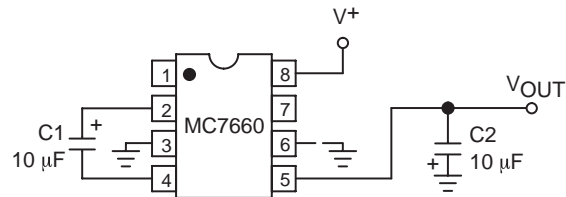
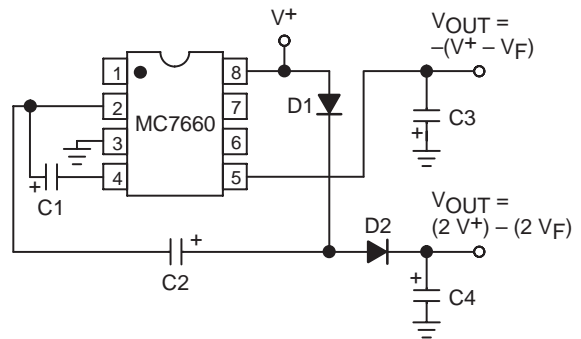
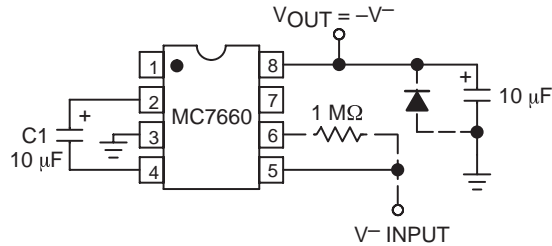
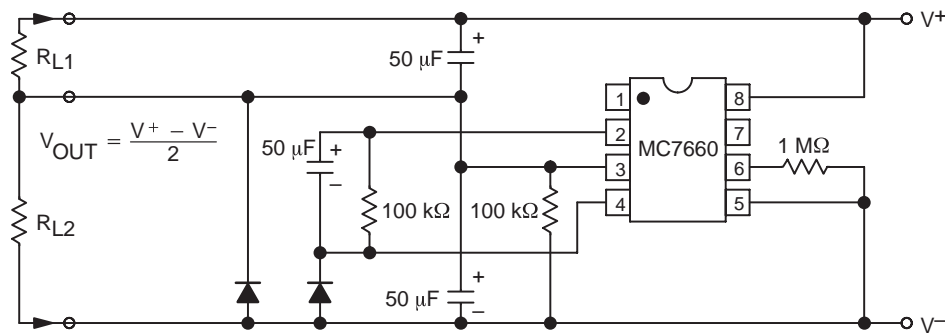

Figure 3. Simple Negative Converter
Figure 9. Combined Negative Converter and Positive Multiplier
Figure 10. Positive Voltage Conversion
Figure 11. Splitting a Supply in Half
Figure 3 shows typical connections to provide a negative supply where a positive supply is available. A similar scheme may be employed for supply voltages anywhere in the operating range of +1.5V to +10V, keeping in mind that pin 6 (LV) is tied to the supply negative (GND) only for supply voltages below 3.5V.
The output characteristics of the circuit in Figure 3 are those of a nearly ideal voltage source in series with 70Ω. Thus, for a load current of -10mA and a supply voltage of +5V, the output voltage would be -4.3V.
Figure 9 combines the functions shown in Figures 3 and 8 to provide negative voltage conversion and positive voltage multiplication simultaneously. This approach would be, for example, suitable for generating +9V and -5V from an existing +5V supply. In this instance, capacitors  $C_1$  and  $C_3$  perform the pump and reservoir functions, respectively, for the generation of the negative voltage, while capacitors  $C_2$  and  $C_4$  are pump and reservoir, respectively, for the multiplied positive voltage. There is a penalty in this configuration which combines both functions, however, in that the source impedances of the generated supplies will be somewhat higher due to the finite impedance of the common charge pump driver at pin 2 of the device.
Since the switches that allow the charge pumping operation are bidirectional, the charge transfer can be performed backwards as easily as forwards. Figure 10 shows a MC7660 transforming  $-5V$  to  $+5V$  (or  $+5V$  to  $+10V$ , etc.). The only problem here is that the internal clock and
switch-drive section will not operate until some positive voltage has been generated. An initial inefficient pump, as shown in Figure 9, could be used to start this circuit up, after which it will bypass the other ( $D_1$  and  $D_2$  in Figure 9 would never turn on), or else the diode and resistor shown dotted in Figure 10 can be used to "force" the internal regulator on.
The same bidirectional characteristics used in Figure 10 can also be used to split a higher supply in half, as shown in Figure 11. The combined load will be evenly shared between the two sides. Once again, a high value resistor to the LV pin ensures start-up. Because the switches share the load in